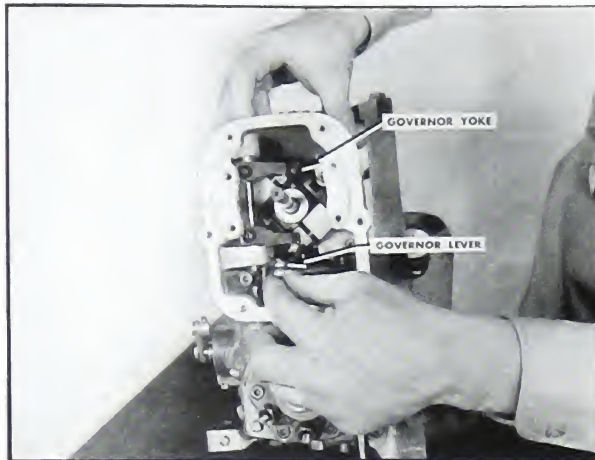

Fig. 5-347. Insert governor shaft
The governor yoke is clamped to the control shaft and transmits the governor action through the control shaft and governor lever to the linkage. The assembly is completed by tightening the $\frac{1}{4}$ " socket head clamping screws. Fig. 5-347.
3. Insert the governor shaft through the governor yoke and governor lever. Clearance should be checked as shown in Fig. 5-347.